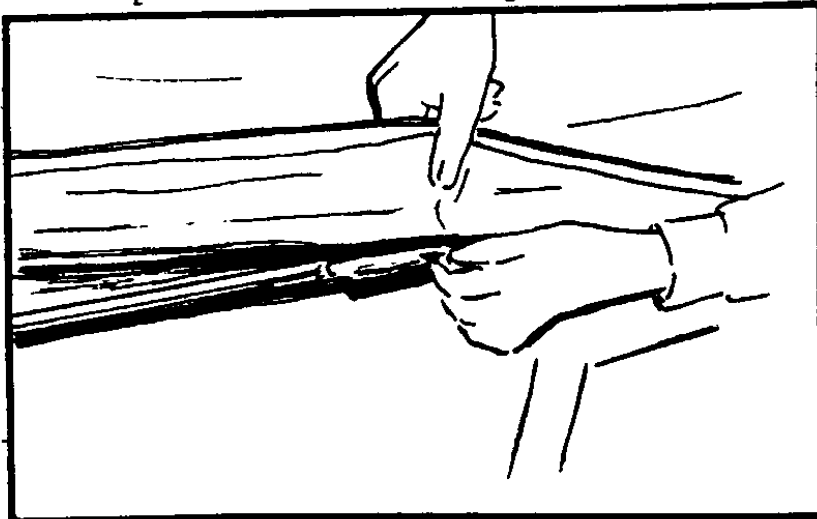

Figure 4
7. Release the tarp locks around the perimeter of the trailer by lifting them upward and loosen tarp. (See Figure 4.)